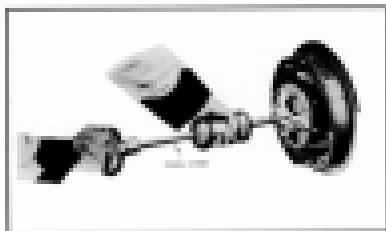

Fig. 119. Removing axle shaft with tool J-2620.
5. Withdraw axle shaft and bearing assembly, using tool No. J-942. (Fig. 119)